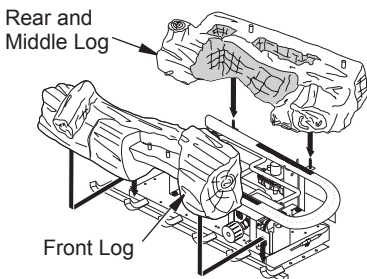

Figure 21 - Front and Rear Log Placement (Thermostat Models)
1. Place rear log on 2 pins on rear brackets (see Figure 21).
2. Place front log on grate fingers and over pins of rear log as shown in see Figure 21.